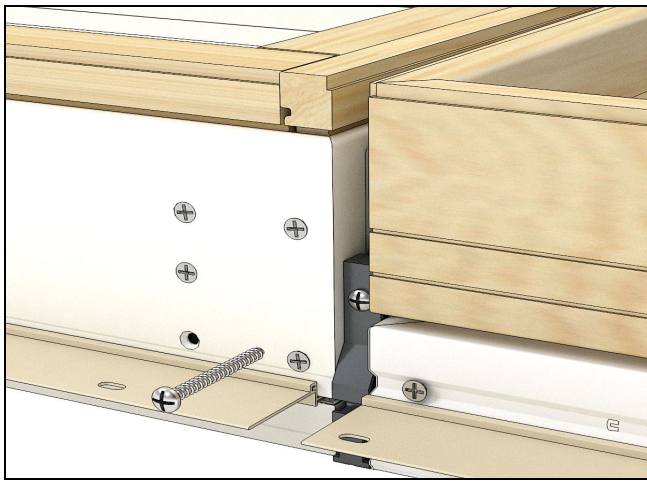

Figure 9
9. Screw #8 x 1 3/4" provided fasteners into the end plugs. See Figure 9.